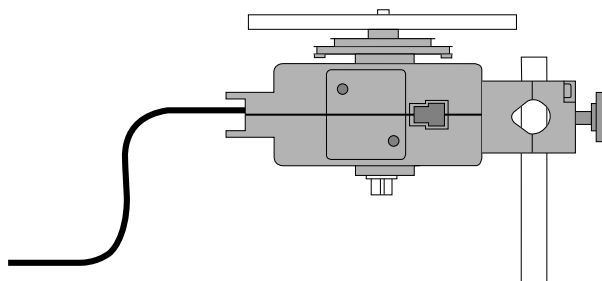

Figure 2
4. Clamp the rotary motion sensor in place at the top of the support rod, as shown in Figure 2.